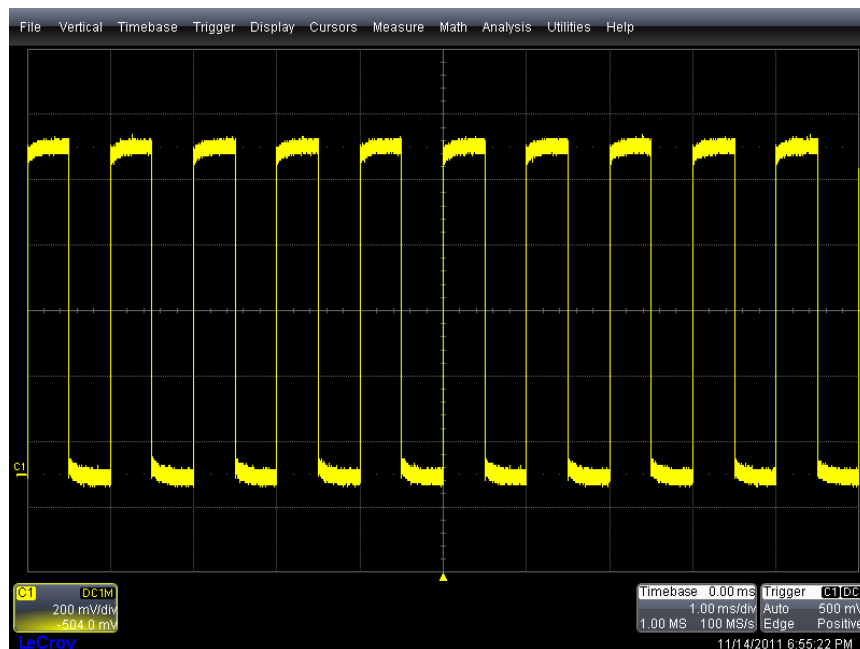

Figure 1: The oscilloscope initial setup showing 10 cycles of the CAL signal
7. This completes the initial setup. The scope display should be similar to Figure 1.